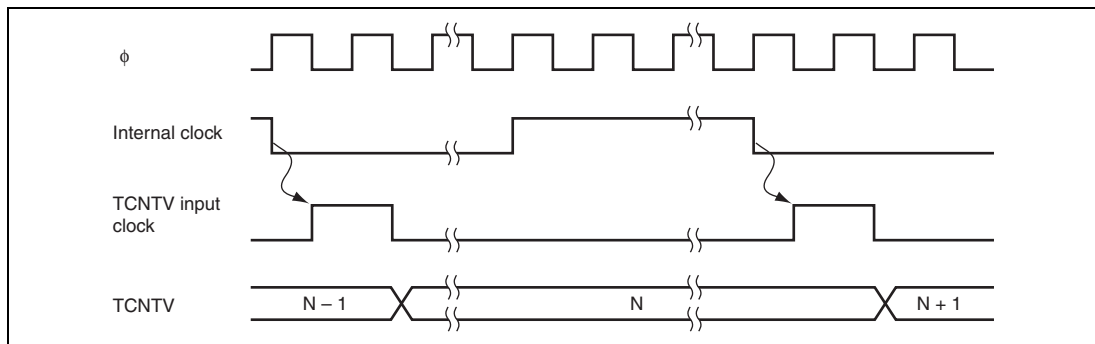
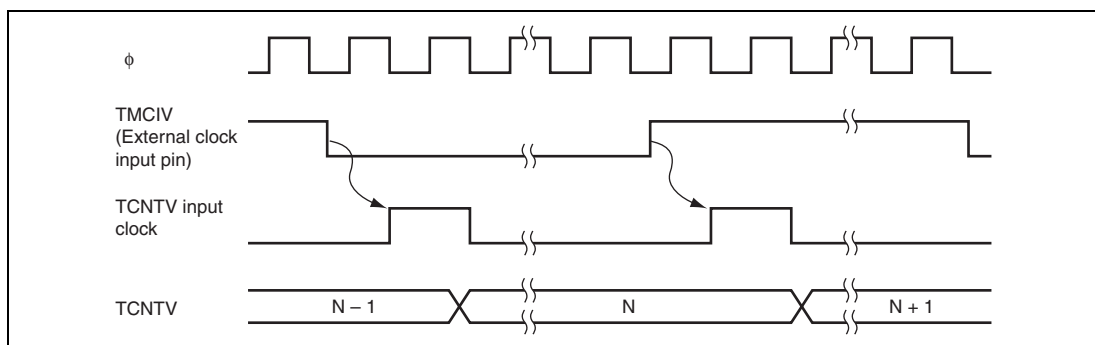

Figure 12.2 Increment Timing with Internal Clock
Figure 12.3 Increment Timing with External Clock
1. According to table 12.2, six internal/external clock signals output by prescaler S can be selected as the timer V operating clock signals. When the operating clock signal is selected, TCNTV starts counting-up. Figure 12.2 shows the count timing with an internal clock signal selected, and figure 12.3 shows the count timing with both edges of an external clock signal selected.
4. Depending on the timing, TCNTV may be incremented by a switch between different internal clock sources. When TCNTV is internally clocked, an increment pulse is generated from the falling edge of an internal clock signal, that is divided system clock (ϕ). Therefore, as shown in figure 12.3 the switch is from a high clock signal to a low clock signal, the switchover is seen as a falling edge, causing TCNTV to increment. TCNTV can also be incremented by a switch between internal and external clocks.